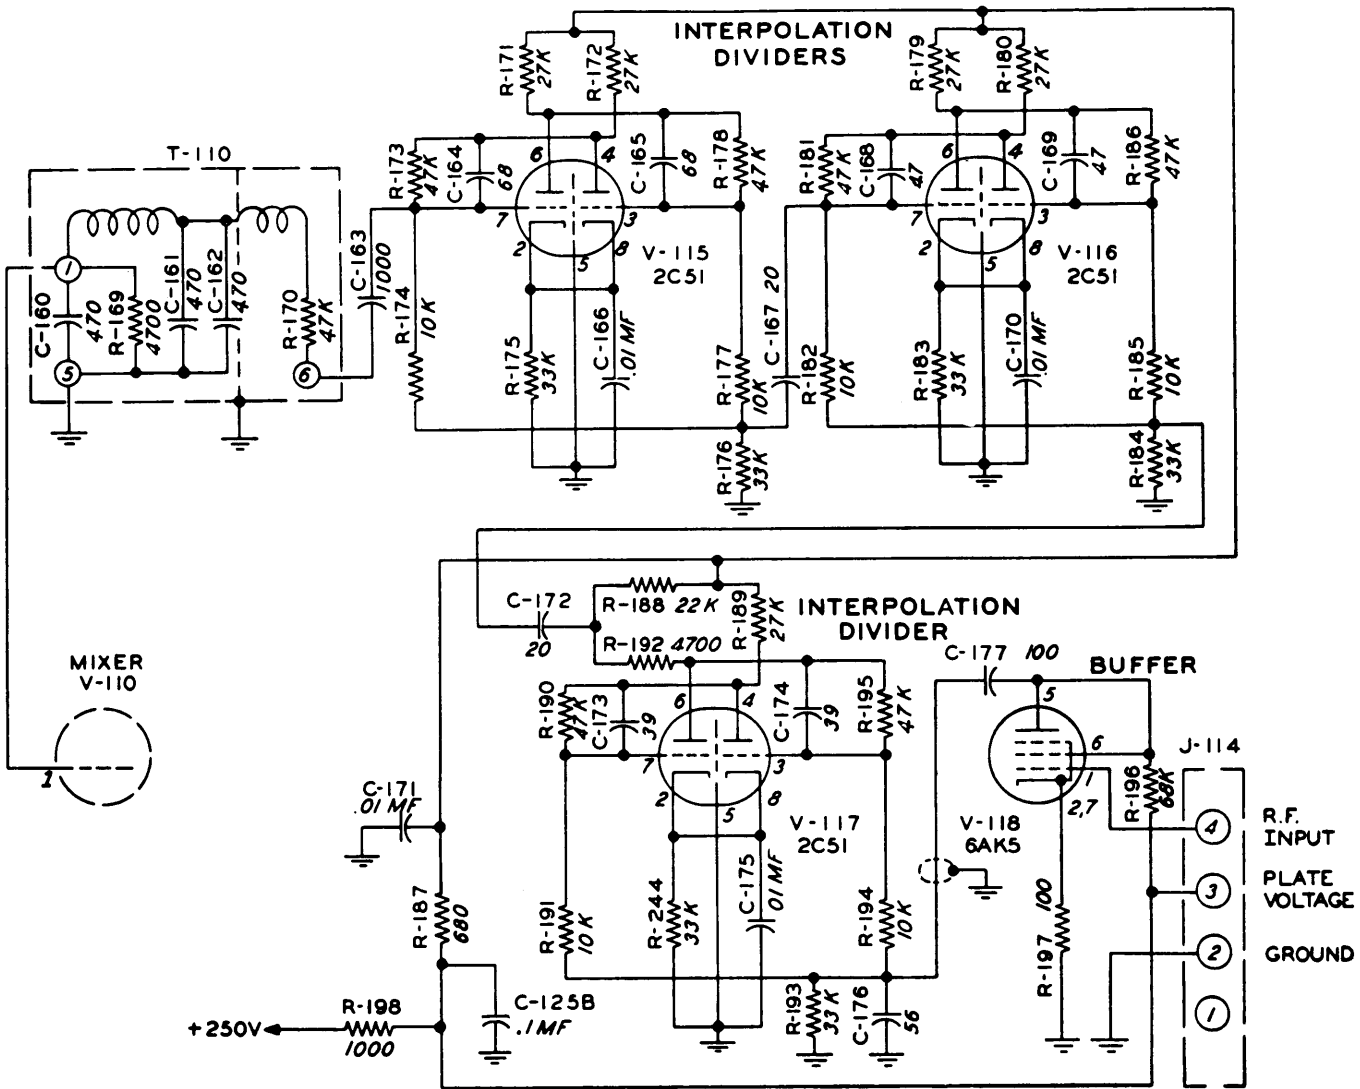

Figure 2-9. Schematic - RF Oscillator O-91A/FRT-5, Interpolation Oscillator Dividers
3. INTERPOLATION DIVIDERS. — (Refer to figure 2-9.) — The interpolation dividers operate in the same way as the crystal dividers. Refer to the paragraph describing crystal dividers for the theory of operation (paragraph 2 a (2) (f), this section).